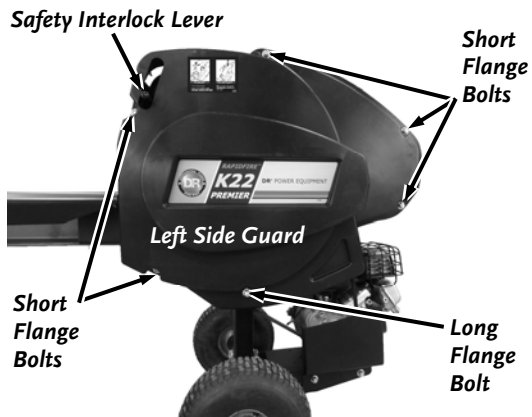

Figure 43
1. Remove the long Flange Bolt and Locknut that secures the lower portion of the Guards to the Frame using two 9/16" Wrenches (**Figure 43**).